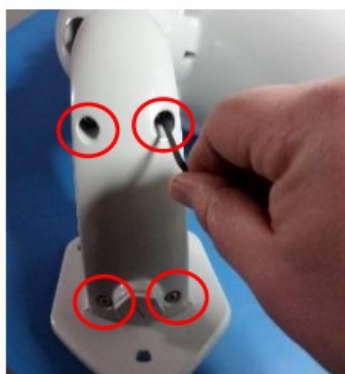

Fig 5
- Remove the wall bracket Allen wrench provided and pull the cover away from the front cover (Fig 5). Using the medium (3mm), unscrew the 4 fixing bolts from the bracket arm.